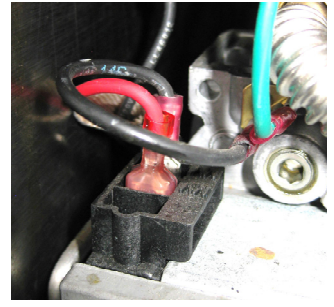

Figure 28
31. Tuck harness out of way (see Figure 28).